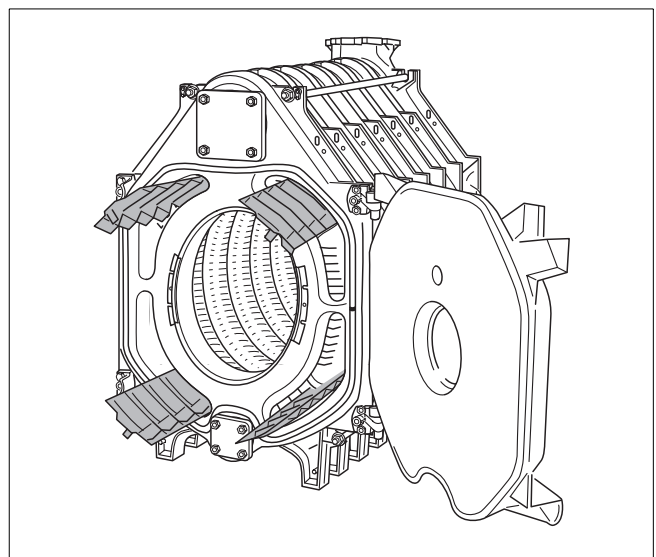

Fig. 31 Hot-gas baffles (boilers with 8 – 11 sections only)
- Take the hot-gas baffles out of the box of fittings and insert them in the hot-gas passes as indicated by the **directions cast into them** (see Fig. 31 and the table below).